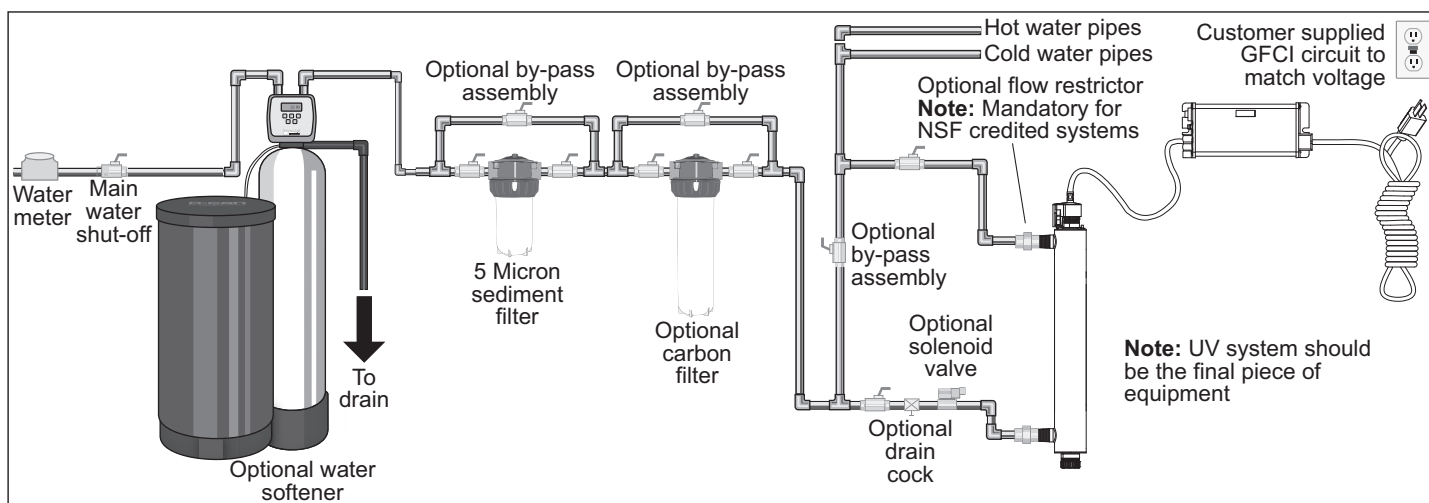

Figure 3 UV System
1. **Figure 3** shows the installation of a typical UV system and the related components that may be used for the installation. The use of a by-pass assembly is recommended in case the system requires “off-line” maintenance. In this case, note the system requires supplementary disinfectant for the distribution system if any water is used during by-pass condition. In addition, during by-pass, the water will NOT be treated and a “DO NOT CONSUME THE WATER” tag should be physically installed on the by-pass assembly until such time as the system is sanitized and returned to service. For more information, refer to Section 3.2. If the water is to be consumed while the system is off-line, the water must be boiled for two minutes prior to consumption.